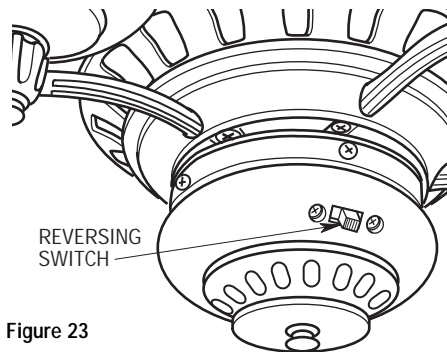

Figure 23
- 6. If airflow is desired in the opposite direction, turn the fan off and wait for the blades to stop turning. Then slide the reversing switch to the opposite position (Figure 23) and turn the fan on again. The blades will turn in the opposite direction and reverse the airflow.